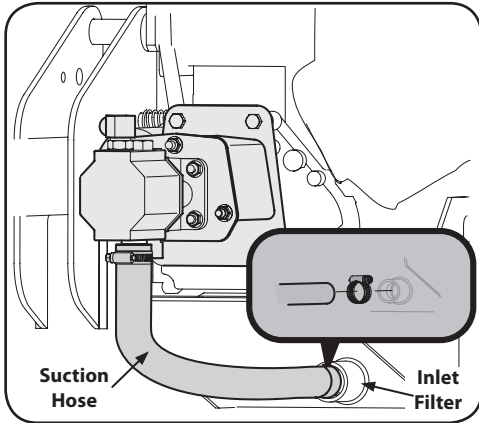
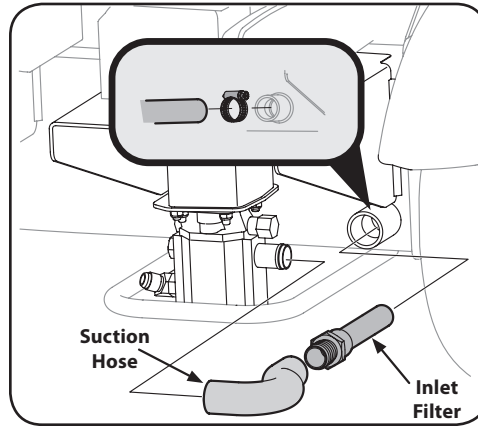

Figure 5-1
Figure 5-2
2. If your engine has a horizontal engine set-up shown in Figure 5-1, See "Figure 5-1" for changing the hydraulic fluid.
3. If your engine has a vertical set-up shown in Figure 5-2, see "Figure 5-2" for changing the hydraulic fluid.
4. Disconnect the suction hose from the bottom of the reservoir tank. See Figure 5-1 for horizontal engines or Figure 5-2 for vertical engines.